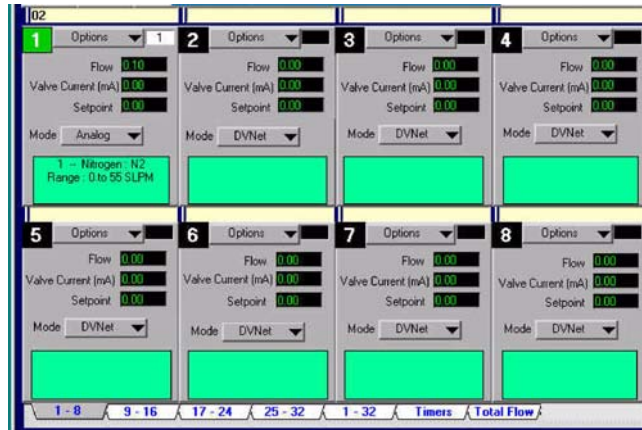

Figure 25: Main Screen
3. The program will open and ask for a selection of a Com Port. After selection of the Com Port, the program will begin searching for the IN2s (Up to 32 IN2s) that are connected to the computer. When the search is completed, the Main screen will appear with data from the characteristics of the presently selected IN2(s) in groups of eight or 1 to 32. It is also the screen from which access to other functions takes place. (Figure 25)
Figure 25 shows the main screen of the Diagnostic Mode. This screen consists of display boxes which correspond to the address of the IN2 being monitored and three critical parameters (**Flow** in sccm, **Valve Current** in mA, and **Setpoint** in sccm) for its associated flow controller.